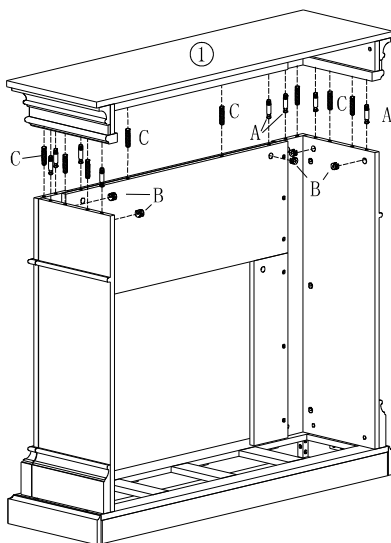

Figure 5
ATFER FINISHED FIGURE 5,THEN INSERT (J) INSERT TO THE RELATED PLACE OF MAIN BODY, THEN INSERT (D) WOOD SCREW TO CONNECT (6) INNER FIXED BAR WITH MAIN BODY. FINALLY USE SCREWDRIVER TO LOCK IT TIGHTLY.